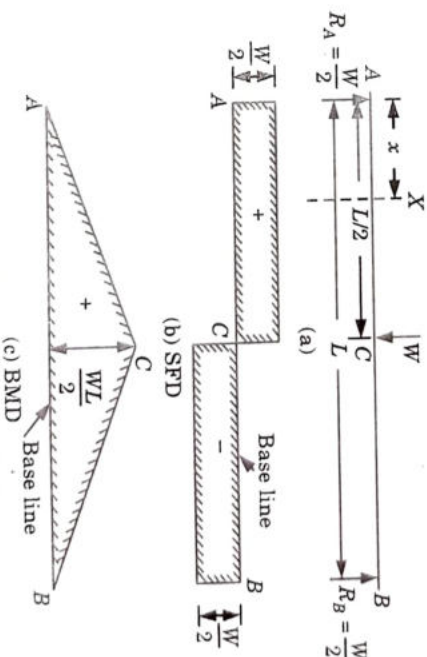

Fig. 1.20.1. SFD and BMD.
1. Fig. 1.20.1 shows a beam AB of length L simply supported at the ends A and B and carrying a point load W at its middle point C .
- Hence, bending moment at C is $WL/4$ and it decreases to zero at B. Now the BM diagram can be completed as shown in Fig. 1.20.1(c).